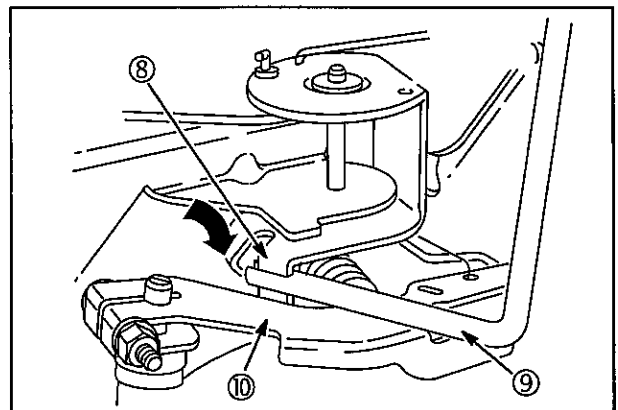

Fig. 14
- b. Press limiter into position using Knock Out Pin, #19135 (6) as shown.
11. With equipment control lever in SLOW position and engine running at governed idle, use Tang Bender, #19352 (9), to bend throttle restrictor tang (8) so that tang just contacts governor lever (10), Fig. 14.